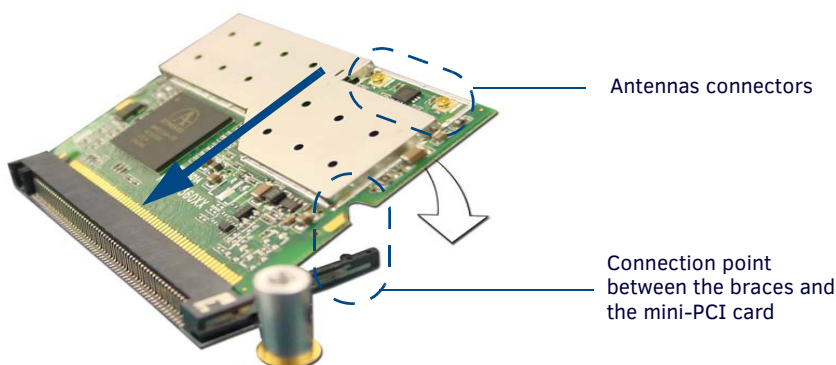

FIG. 18 Installation of the mini-PCI card connector on main board
4. Firmly grasp the NXA-PCI80211G mini-PCI card (from the edges) and insert the pins (at a 25° angle) into the opening on the connector (FIG. 18).
5. While maintaining the 25° angle alignment on the new module, push it in firmly until the contact pins are completely inside the connector and the card "snaps" into place (FIG. 18).
7. Locate the terminal ends of the antennas and apply downward pressure to "snap" them onto their gold-tipped counterparts on the mini-PCI card (FIG. 18). Carefully push down on each connector to verify it is securely joined to the card.